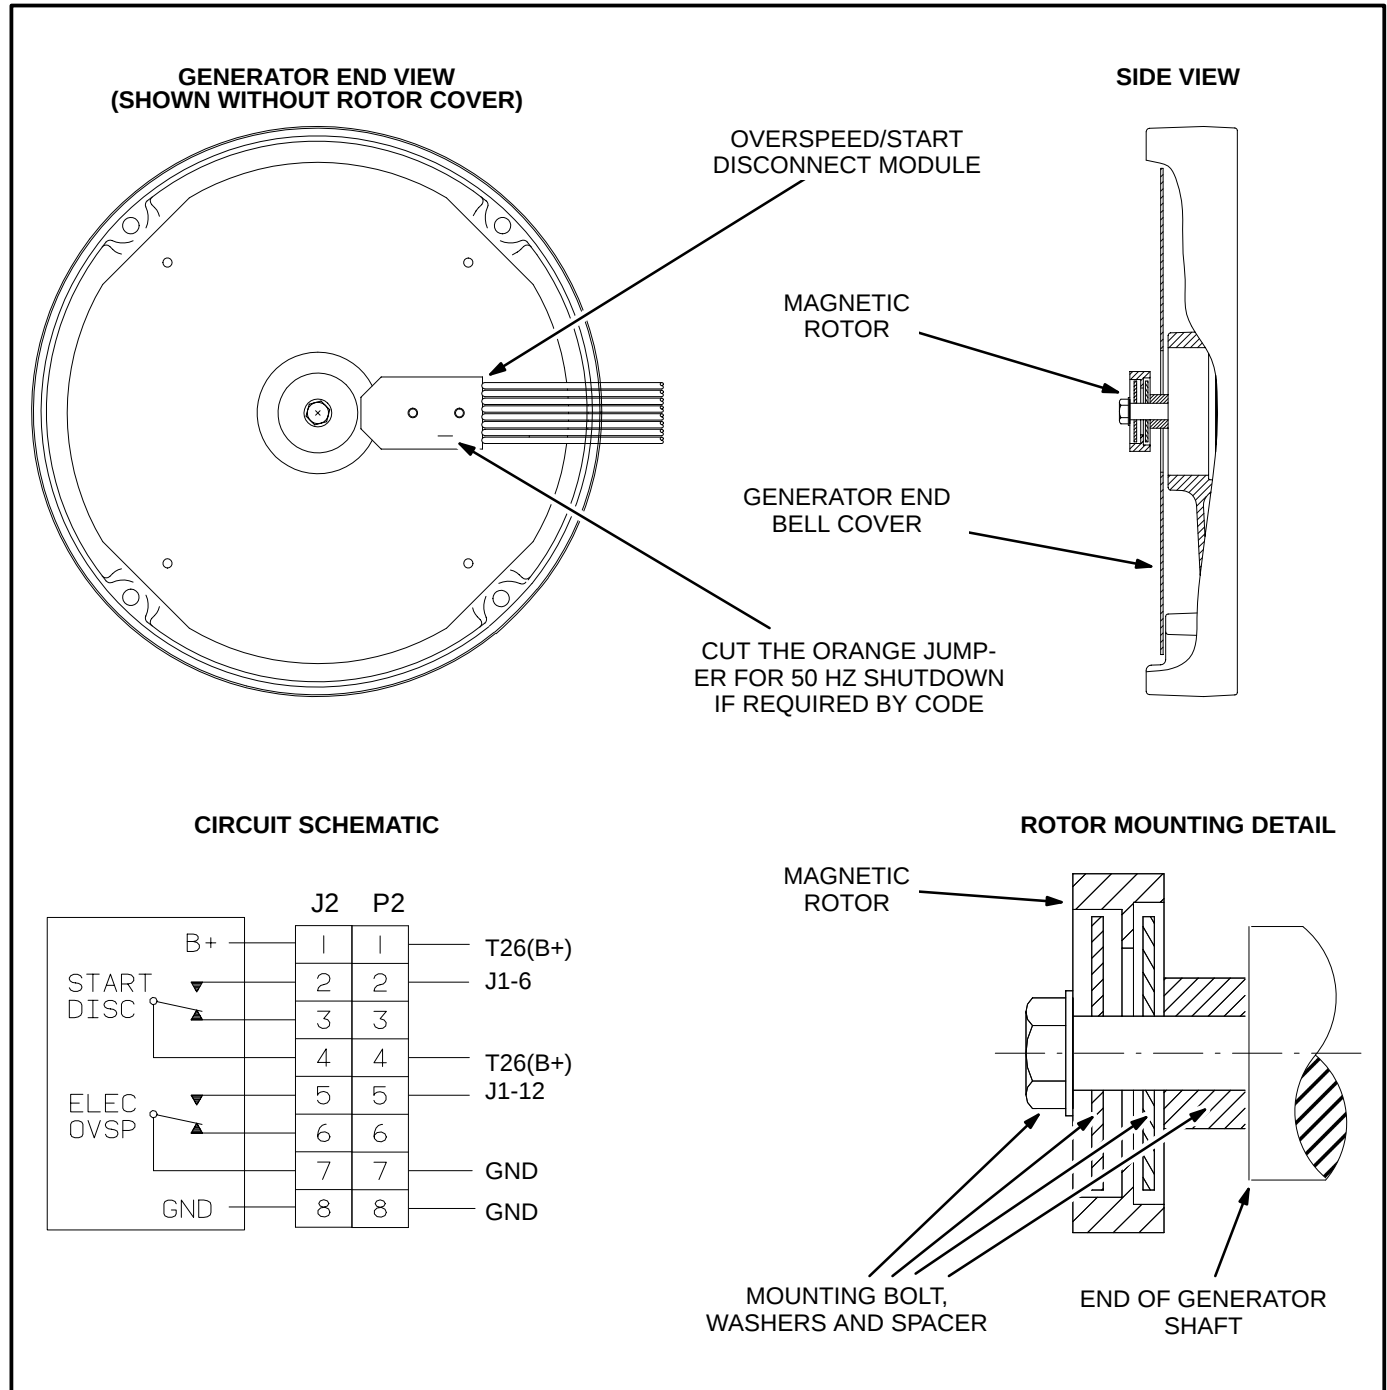

FIGURE 3-5. ELECTRONIC OVERSPEED/START DISCONNECT MODULE
The electronic overspeed/start disconnect module is mounted on the generator end bell cover by two screws as shown by Figure 3-5. The magnetic rotor is bolted to the end of the generator shaft as shown. The module is an encapsulated electronic device with wiring harness and disconnect plug.
1. The OVERSPEED lamp comes on when the engine shuts down.	- If this is a 60 Hertz set, check to see if the orange jumper on the overspeed module has been cut (Figure 3-5). If it has, replace the module. (Cutting the orange jumper lowers the cut-out point for 50 Hertz sets.) - Reset engine monitor board A11 by pushing the Run-Stop-Remote switch to Stop and the Reset switch to Reset and restart the set, monitoring engine speed and adjust the governor according to Section 6, Governors. Mechanical Governor: Service or replace the injection pump unit if the set still shuts down due to overspeed. Electronic Governor: If the governor cannot be adjusted to prevent shutdown due to overspeed, check for binding in the linkage. Repair and adjust the linkage as necessary. (A spring inside the actuator will resist movement, which is normal.) - If the set still shuts down due to overspeed, re-install the magnetic speed pick-up unit to make sure the clearance with the flywheel gear teeth is correct. Replace the speed-pickup unit if output voltage at cranking speed is less than 2.5 VDC as measured at terminals 10 and 11 on the governor controller. - Disconnect the actuator leads at governor controller terminals 4 and 5. Jumper the lead for terminal 4 to the BAT terminal on the starter solenoid and touch the lead for terminal 5 to a good ground on the block. Replace the actuator unit if it does not drive the linkage through its full travel when power is connected or return it when power is disconnected. - Replace the governor controller if the set still shuts down due to overspeed.